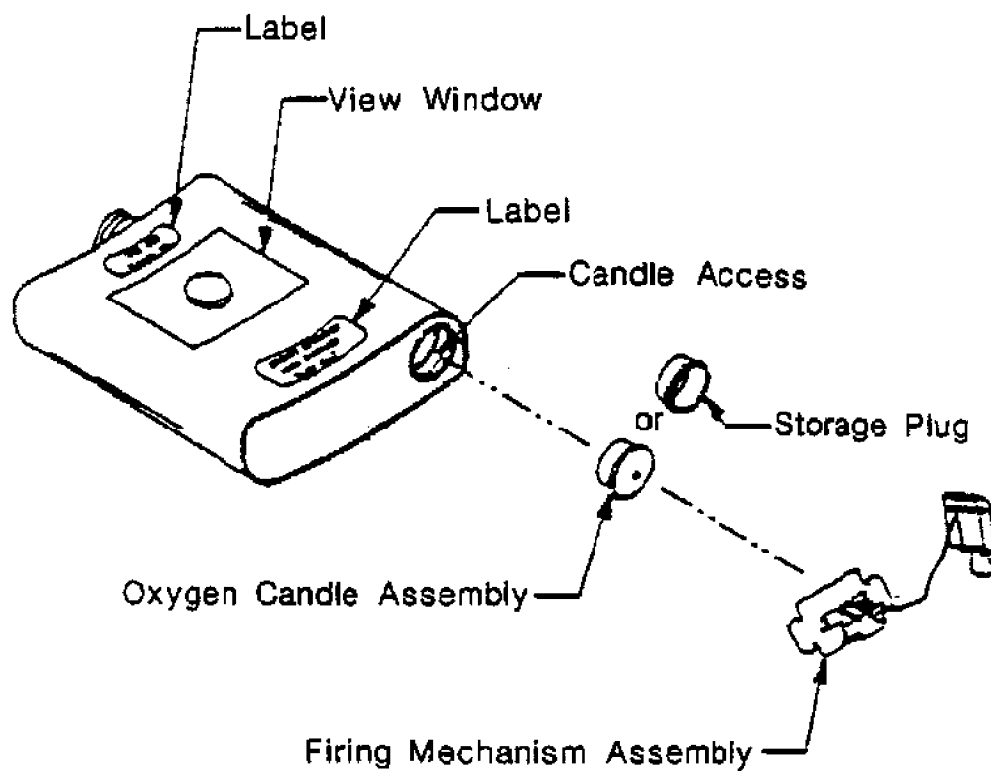
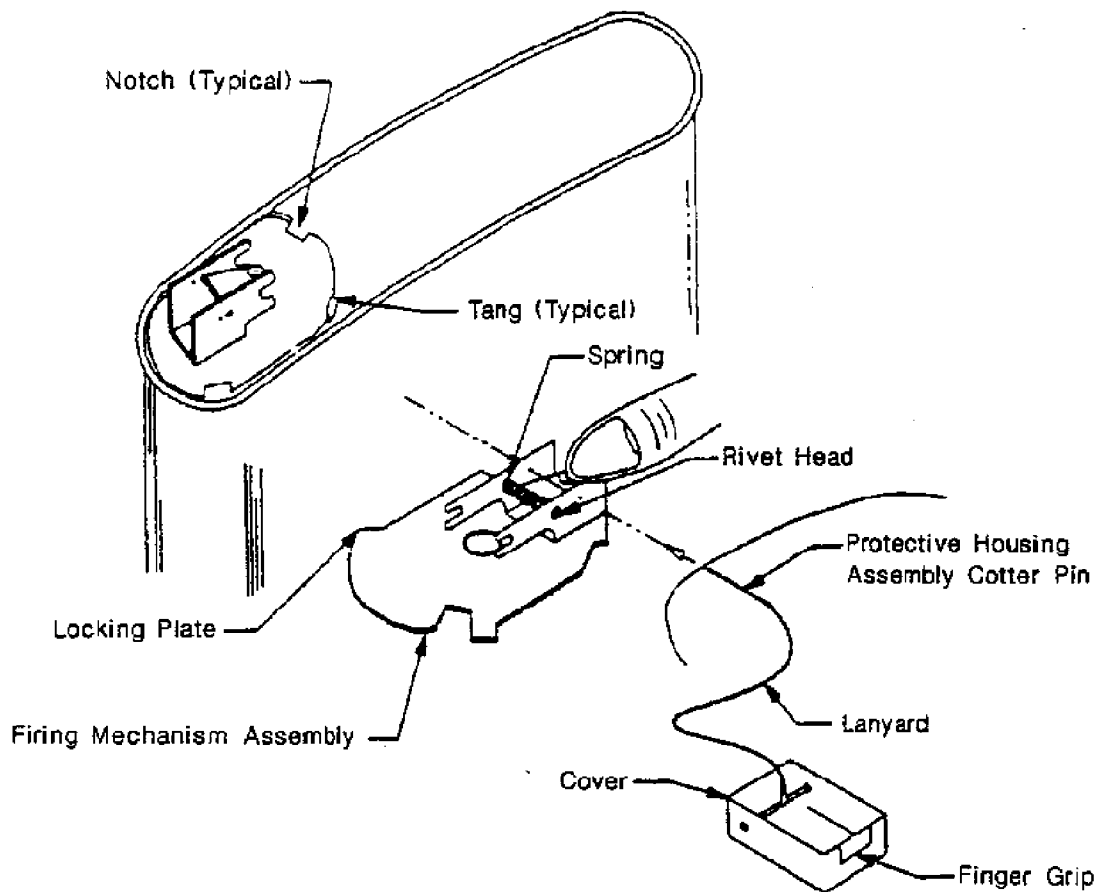

Figure 077-3-5. Exploded View of Training Canister Assembly
Figure 077-3-6. Detail of Training Canister Firing Mechanism Assembly
077-3.2.11.2 Illustrated Views. An exploded view of the training canister is provided in Figure 077-3-5. The firing mechanism assembly is illustrated in Figure 077-3-6.
1. Remove cover from firing mechanism, then remove the mechanism and storage plug (see Figure 077-3-5). Save the storage plug, and reuse it when storing a partially used canister to prevent moisture from entering the canister body.
3. Ensure the firing mechanism is cocked and the cotter pin is in place. Place firing mechanism over the candle assembly with candle primer housing projecting through the center hole. Line the notches up with the tangs, as illustrated in Figure 077-3-6.
5. While holding firing hammer in this position, replace the cotter pin through the holes in the frame from the same side (see Figure 077-3-6).